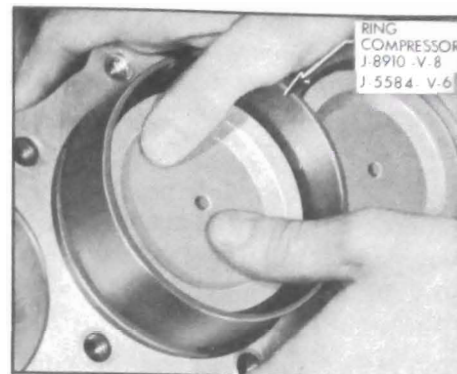

Figure 2-64—Installing Piston with Ring Compressor
15. Lubricate the piston and rings and install in bore by compressing the rings either with a "wrap around" compressor or a split ring type such as shown in Figure 2-64.